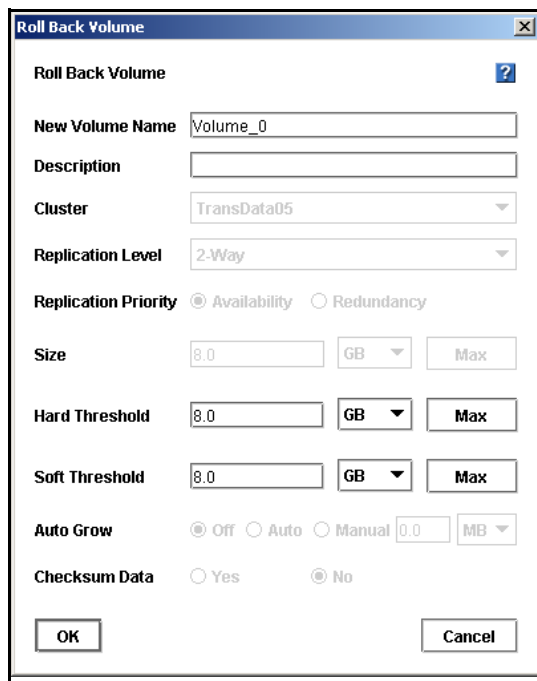

Figure 254. Rolling Back a Primary Volume
5. The Roll Back Volume window opens, shown in Figure 254.